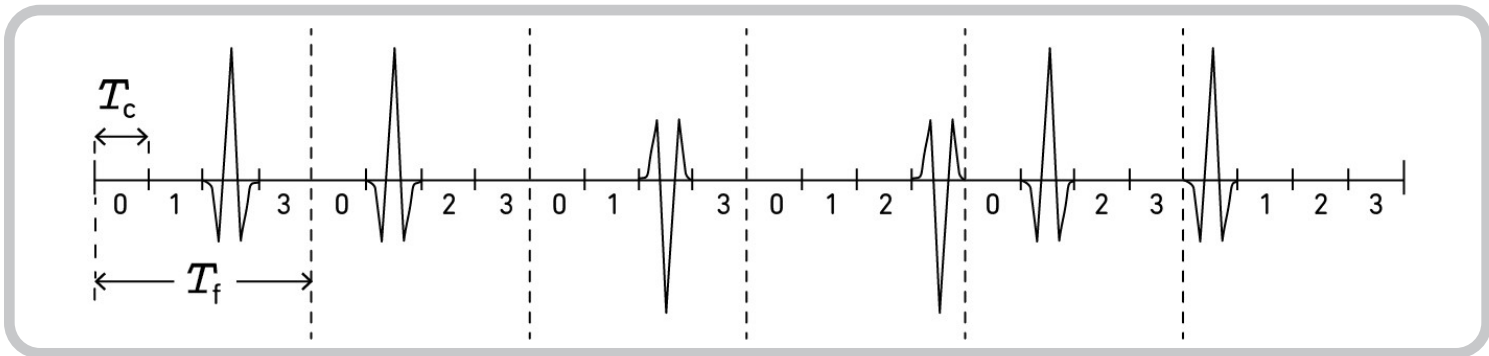

Figure 1: UWB transmits information using short sequences of extremely narrow pulses. (Source: Qorvo)
In the above BPSK example (**Figure 1**), two consecutive impulse radio (IR) signals represent one symbol. The IR signal can occupy one of the chip-intervals (T_c) within a frame (T_f). A time-hopping (T_H) code is used to determine the accurate position of a signal in a dedicated time frame to decrease the chance of interference between UWB systems. In this example, the T_H codes for the symbols are $\{2, 1\}$, $\{2, 3\}$, and $\{1, 0\}$, respectively, so the first and second signals are shifted by two and one chip-intervals and so on. Here, the information corresponds to the polarity of signals, so the IR stream represents the binary data "101."